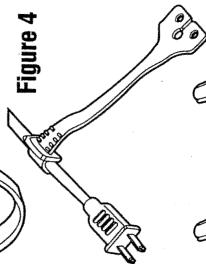

Figure 4
2. Slip loop over electric plug and draw loop tight around cord (Figure 4).